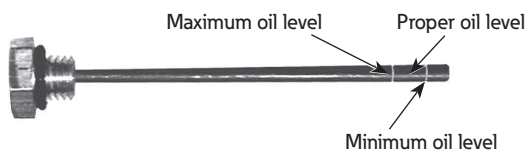

Figure 5. Oil dipstick.
1. Check the oil level before putting the recloser into service. Using the dipstick provided on the recloser head, make sure the oil in the recloser tank is at the proper level (Figure 5). If the oil is below the minimum level, fill the recloser with oil to the proper level using the dipstick hole. Do not exceed the maximum oil level, as indicated by the dipstick.